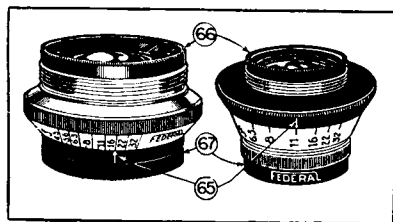

Figure 9
17. The iris diaphragm of the lens, illustrated in Figure 9, is opened and closed by turning the engraved ring which is clearly marked with the speed rating of the lens for every position of the diaphragm. An easy way to see the calibrations on the ring while in the darkroom is to swing the red filter under the lens, snap on the enlarger light and hold a piece of white paper or a small pocket mirror over the red filter. The reflected light will illuminate the figures on the engraved ring.